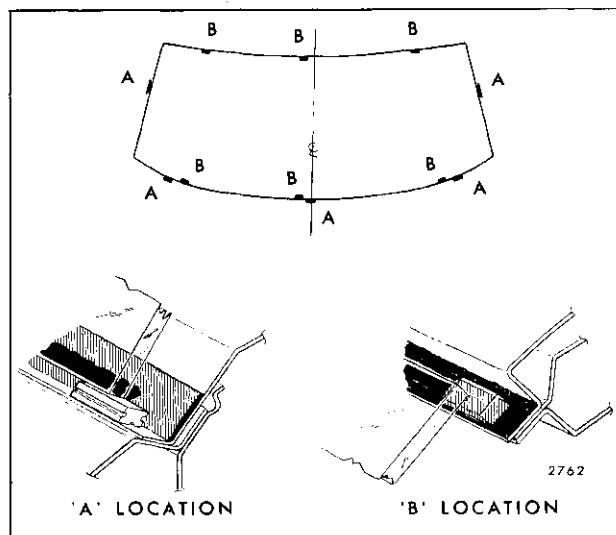

Fig. 4-7—Gloss Spacer Installation
4. Using black weatherstrip adhesive or adhesive caulking material, cement flat rubber spacers #4459429 or equivalent to window opening pinchweld flanges. As shown in Figure 4-7, location "B", spacers should be positioned to provide equal support around entire perimeter of glass.
5. Using black weatherstrip adhesive or adhesive caulking material, cement rectangular spacers #4871330 (.34 x .44 x 1.0) or equivalent to window opening rabbet to support lower edge of glass and restrict lateral movement. Figure 4-7, location "A", illustrates rectangular spacers positioned in a typical windshield installation. On smaller glasses, only 2 rectangular support spacers are required across the bottom.